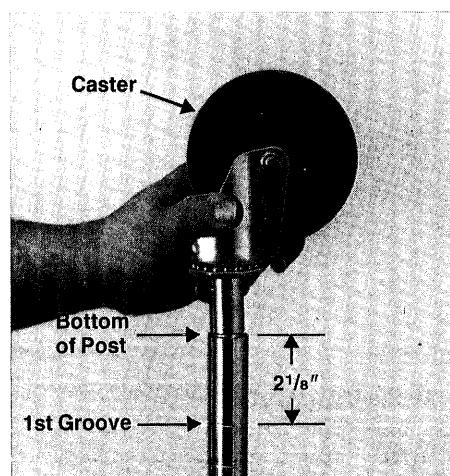

Fig. 1
2. Place caster in the bottom of post (FIRST GROOVE IS LOCATED AT 2 1/8" [5.4 cm] FROM END) (Fig. 1).